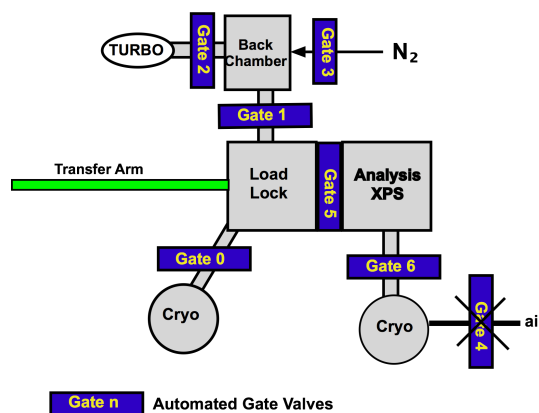

Figure 1 Drawing of the MProbe layout.
- 2) Check the control panel to make sure that gates 3 (N₂) and 5 (analysis chamber) are closed and that gates 2 (load lock/turbo), 6 (XPS/cryo), and 0 (Load/Lock cryo) are open. XPS stage (control 7) can be up (light on) or down. The switch for gate 0 is attached to the left side of the XPS table, Figure 1.